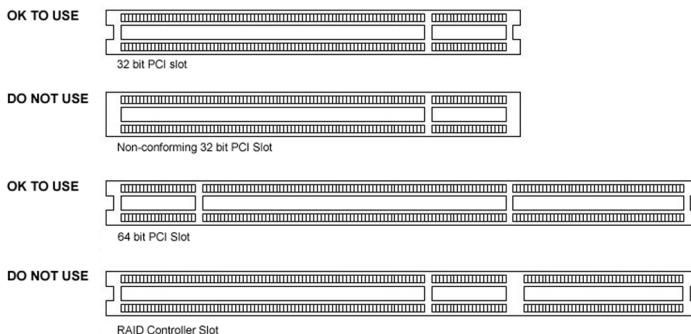

Figure 5: PCI and RAID Controller Slots
Although the BarcoMed Nio is a 64-bit board, it may be installed in either a 64-bit or 32-bit PCI slot. However, installing it in a 32-bit PCI slot will result in a decrease in performance. Figure 5 on page 32 illustrates the types of slots so that you can correctly identify which one to use for the BarcoMed Nio.
4. Install the BarcoMed Nio display controller into a free PCI slot, either 64-bit or 32-bit (see figure 5 above, for examples of slots). Be sure that the display controller is seated firmly in the slot.